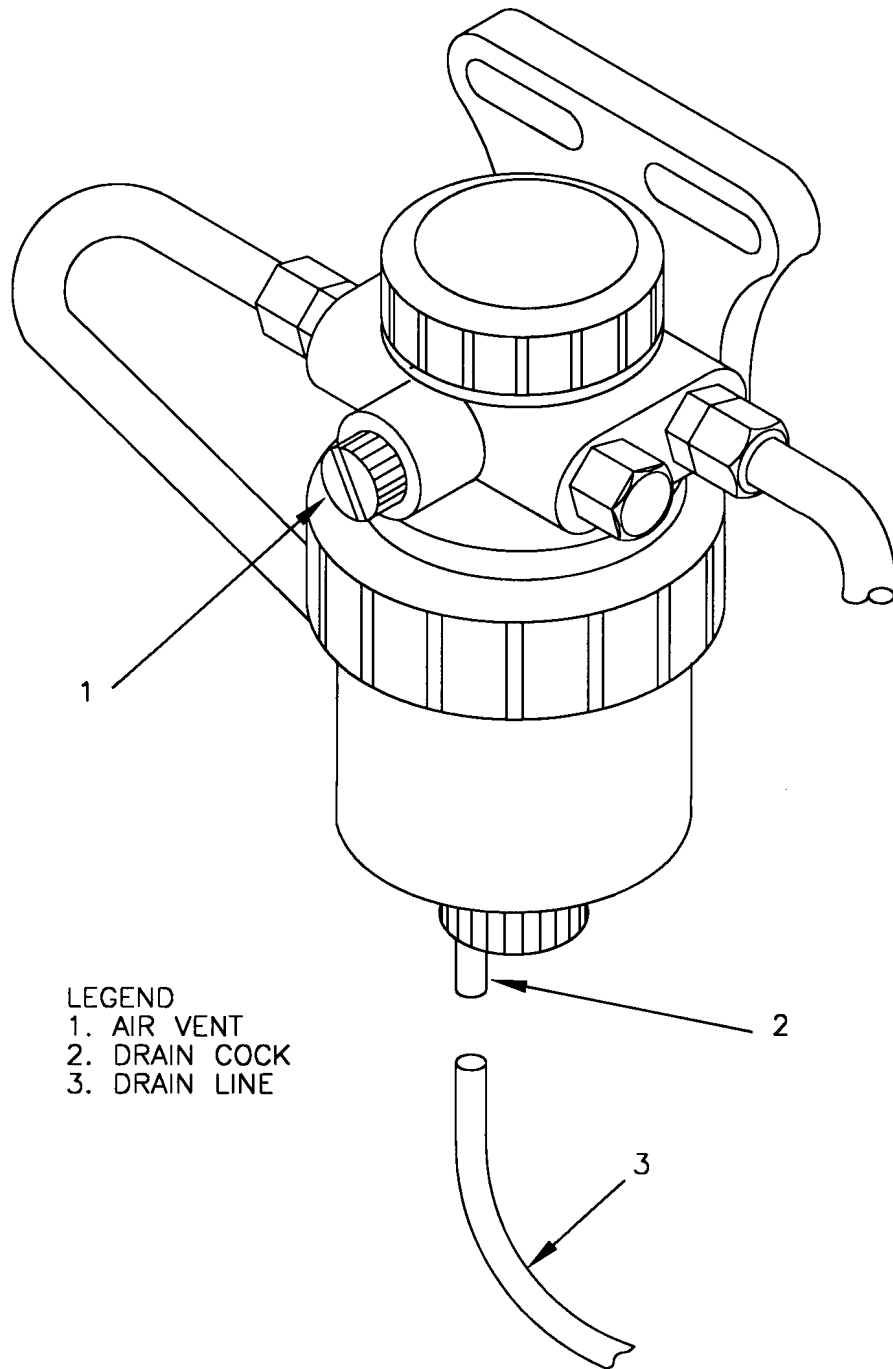

FIGURE 3-5. FUEL FILTER/WATER SEPARATOR
- (3) Open drain cock (2, Figure 3-5) and air vent (1) on fuel filter/water separator. Allow water and sediment to drain into a suitable container.
- (4) Close drain cock (2) and air vent (1).
- (5) Close engine compartment access doors.